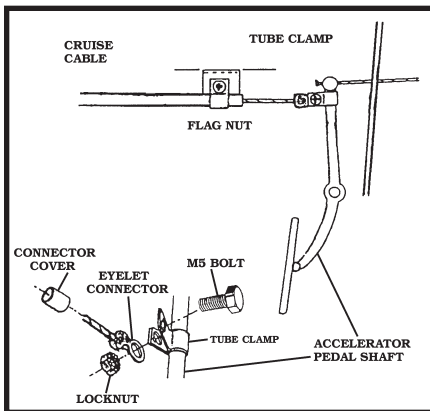

Figure 13
4. Put **M5 BOLT** through the holes in the **TUBE CLAMP**. Slide the **EYELET CONNECTOR** over the bolt. Thread **LOCKNUT** onto the bolt and tighten. **Figure 13**